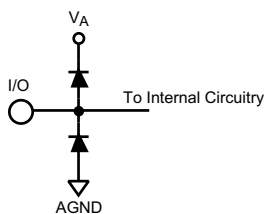

Figure 1.
- The inputs are protected as shown below. Input voltage magnitudes above VA or below GND will not damage this device, provided current is limited per Note 4 in the Absolute Maximum Ratings table. However, errors in the A/D conversion can occur if the input goes above 2.6V or below GND as described in the Operating Ratings section, see Figure 1.
- (1) The inputs are protected as shown below. Input voltage magnitudes above  $V_A$  or below GND will not damage this device, provided current is limited per Note 4 in the Absolute Maximum Ratings table. However, errors in the A/D conversion can occur if the input goes above 2.6V or below GND as described in the Operating Ratings section, see Figure 1.
- (2) With a full scale differential input of  $2V_{P-P}$ , the 14-bit LSB is  $122.1\text{ }\mu\text{V}$ .
- (3) Typical figures are at  $T_A = 25^\circ\text{C}$  and represent most likely parametric norms at the time of product characterization. The typical specifications are not guaranteed.
- (4) This parameter is specified in units of dBFS - indicating the value that would be attained with a full-scale input signal.
- (2) With a full scale differential input of  $2V_{P-P}$ , the 14-bit LSB is 122.1  $\mu\text{V}$ .
- (4)  $I_{DR}$  is the current consumed by the switching of the output drivers and is primarily determined by load capacitance on the output pins, the supply voltage,  $V_{DR}$ , and the rate at which the outputs are switching (which is signal dependent).  $I_{DR} = V_{DR}(C_0 \times f_0 + C_1 \times f_1 + \dots + C_{13} \times f_{13})$  where  $V_{DR}$  is the output driver power supply voltage,  $C_n$  is total capacitance on the output pin, and  $f_n$  is the average frequency at which that pin is toggling.
- (1) The inputs are protected as shown below. Input voltage magnitudes above  $V_A$  or below GND will not damage this device, provided current is limited per Note 4. However, errors in the A/D conversion can occur if the input goes above 2.6V or below GND as described in the Operating Ratings section. Figure 1